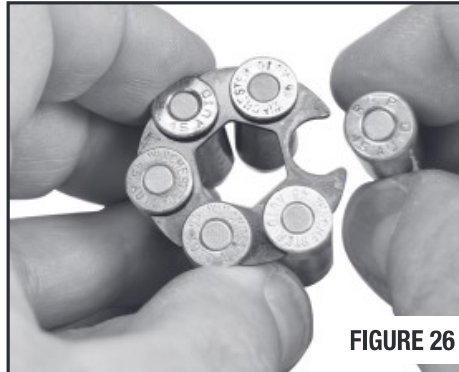

FIGURE 26
- Loading Moon Clips. Position the extractor groove of the cartridge at the opening in the moon clip. Push the round into the moon clip opening until it “clicks” into place (FIGURE 26).